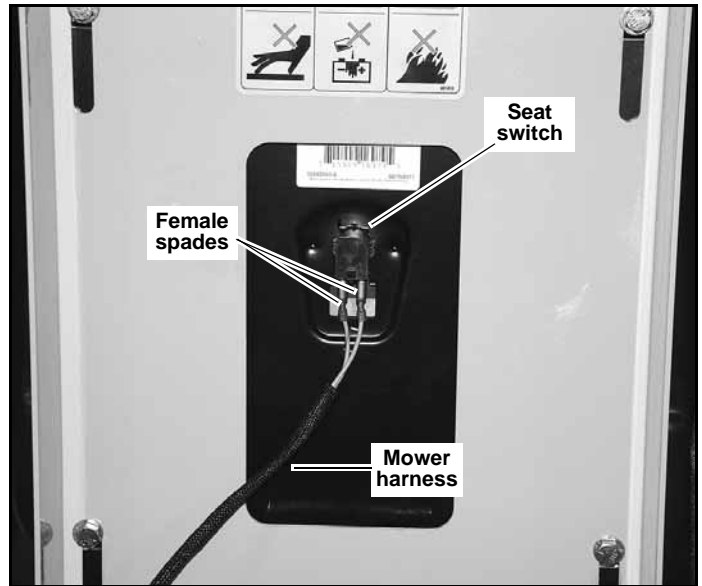

Figure 4-1
3. Raise the seat platform and disconnect the mower harness from the seat switch. Bypass the seat switch by connecting the two mower harness female spades together. Figure 4-1
15. **IMPORTANT:** With the engine off, disconnect the two female spade connectors from each other (from step #3) and reconnect them to the seat switch. This must be completed so that the safety circuit is functioning properly. Figure 4-1